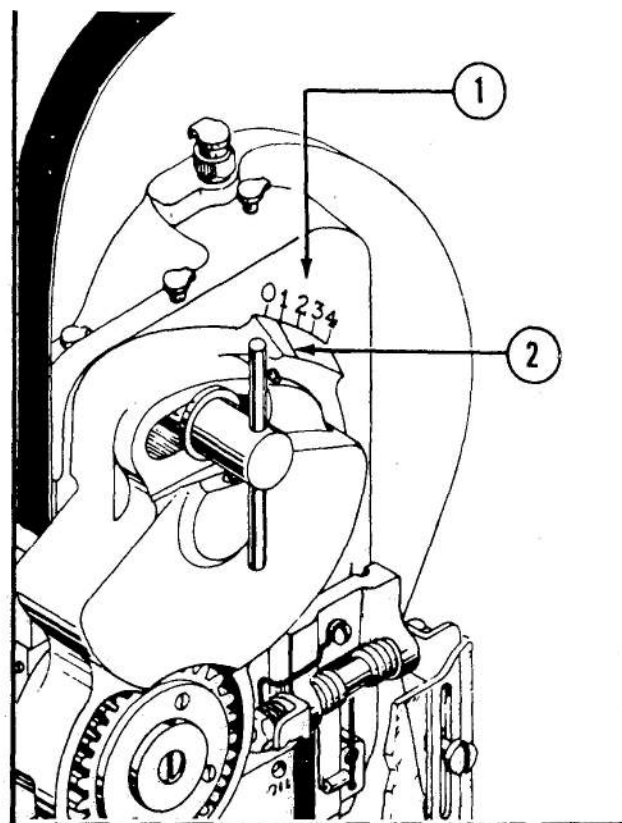

Figure 10—Wire Draw Scale
The standard wire draw heads are equipped with a length of wire draw scale. (1) Fig. 10, on the head plate, and an alignment marker (2) on the wire feed guard. The scale and marker provide a means of setting the wire draw according to the desired length. On the standard draw head the "0" marking represents 1" (25.4mm) of wire draw. Each of the other graduations in the scale on both heads represent approximately 1/8" (3.2mm) additional wire draw. Thus, if the head being operated is a standard wire draw head, a setting on the "3" (76.2mm) marking will result in a wire draw of 1-3/8" (34.9mm).